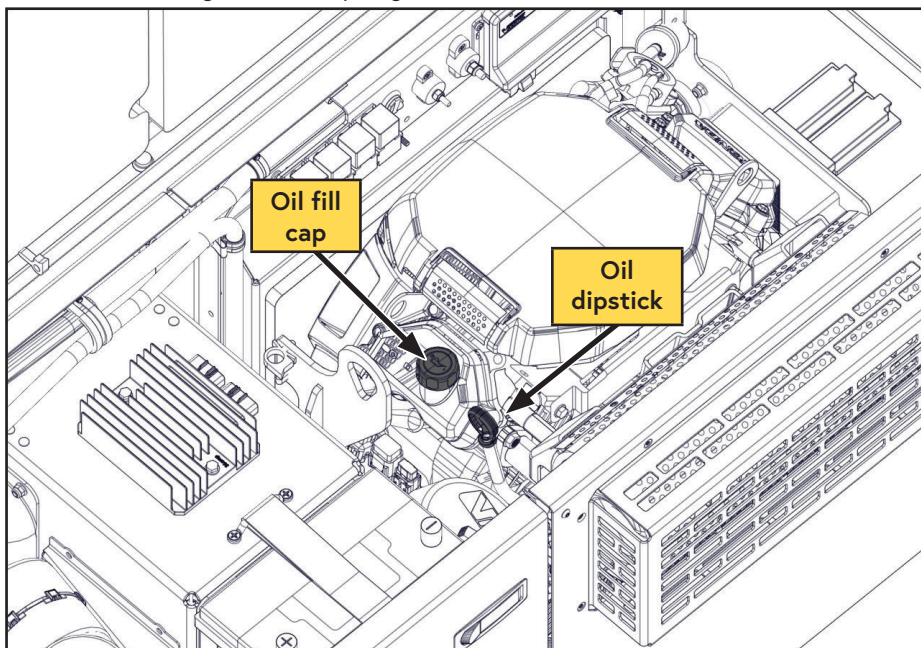

Figure 36 — Remove oil fill cap
- ☐ Remove the engine oil fill cap (Figure 36).